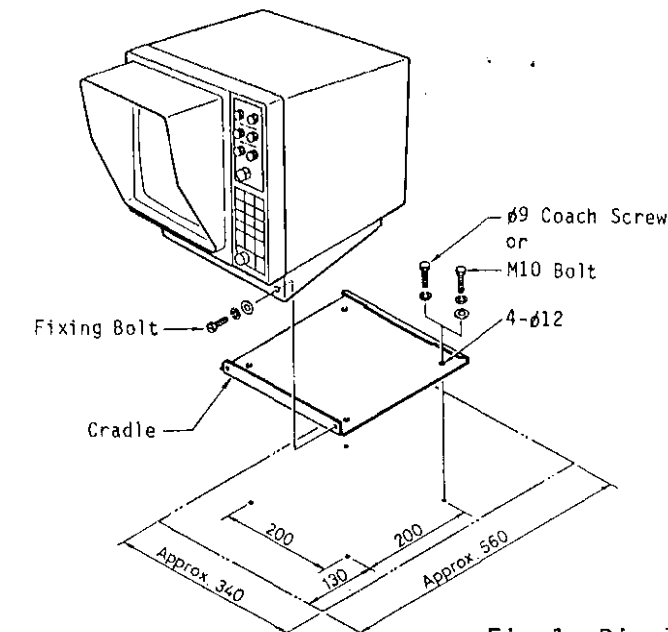

Fig.1 Display Unit Mounting
- 1) Remove the mounting cradle from the display main body by undoing two bolts at the front bottom of the display unit. See Fig.1.
- 2) Drill four bolt holes of 12mm dia. through the tabletop to correspond to the fixing holes on the mounting cradle. See Fig.1 and the outline drawing of the display unit.